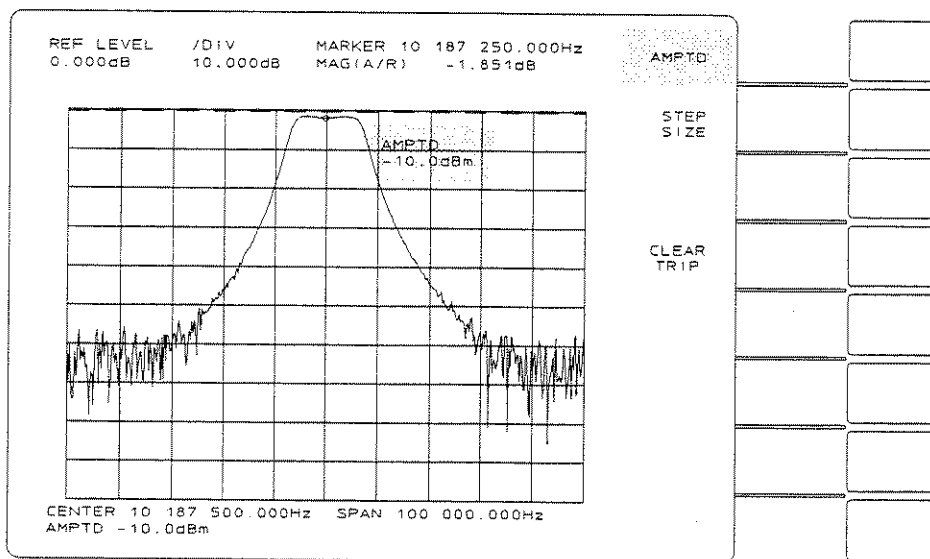
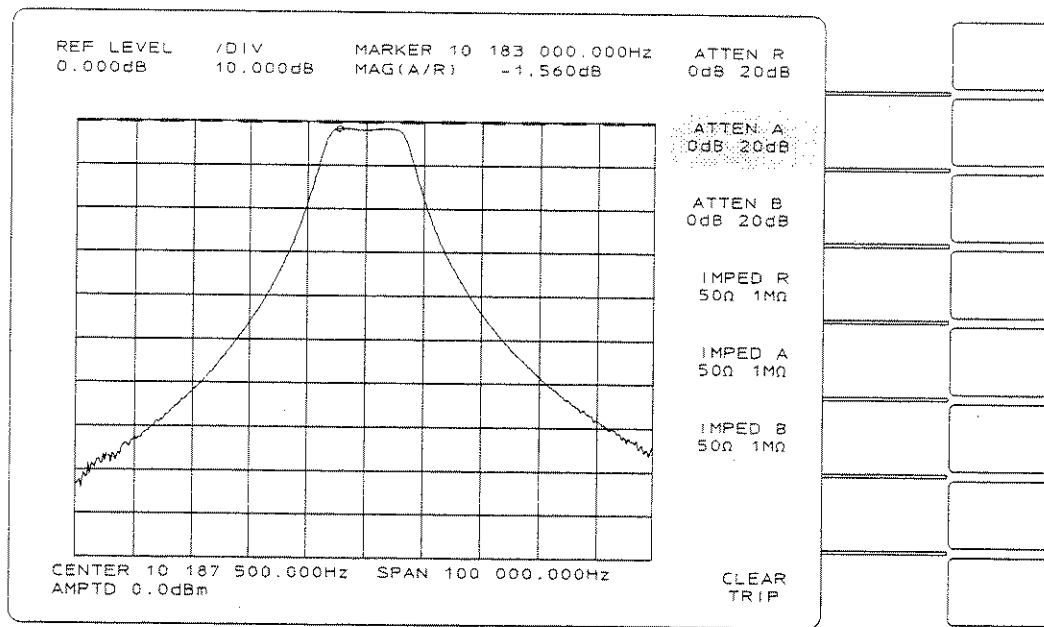

Figure 2-14. The Source Amplitude Menu
Figure 2-15. Optimizing Dynamic Range
7. The noise level of figure 2-14 will now be reduced by increasing the source amplitude and decreasing the attenuation applied to input A. Press **[ AMPTD ]** in the SOURCE section.
The noise-reduced trace is shown in figure 2-15. Compare it with figure 2-14.